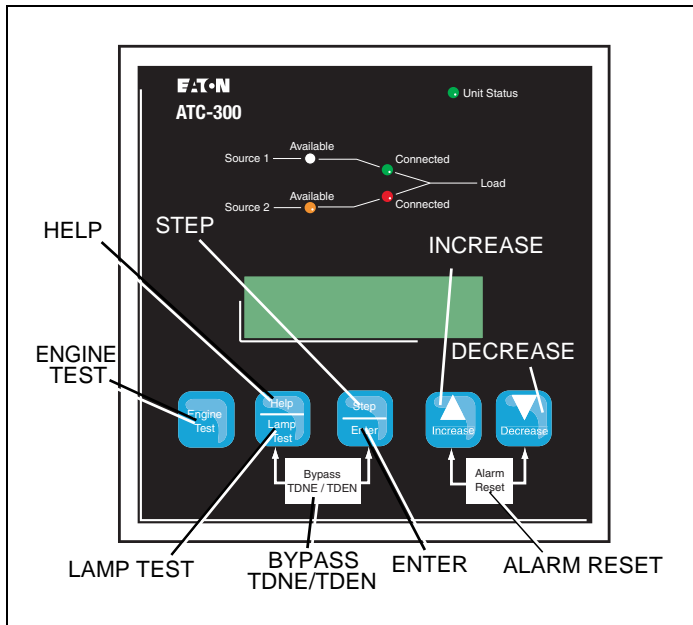

Figure 44. ATC-300 Pushbuttons
Step 8: Manually start the engine generator at the generator controller (Figure 44). Check that the generator is running and the **Source 2 Available** amber LED is lit. Press the **<Step/Enter>** pushbutton, step through the phase voltages, frequency, and message display. If the source message indicates that the source is Good, shut down the generator and place the Genset controller in the Auto-operating position. If the message indicates a problem with the source, the setpoints should be reviewed and the generator checked for proper voltage and frequency output.